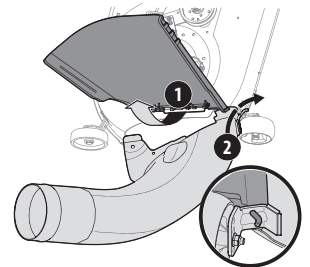

Figure 19
- With the mower's discharge chute raised up and held open (1), install the bagger chute by placing the bagger chute mounting rod into the bagger chute mounting tab (2), as shown in Figure 19.